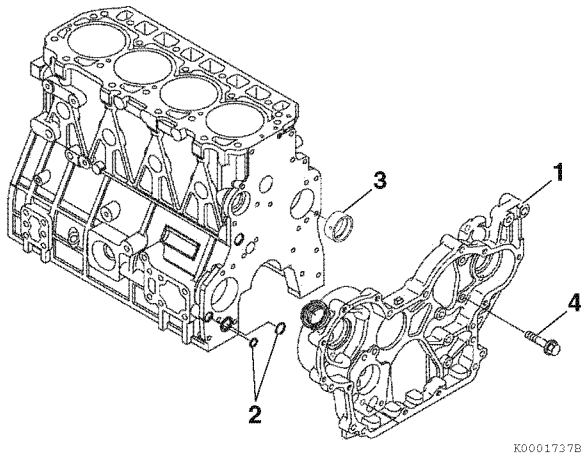
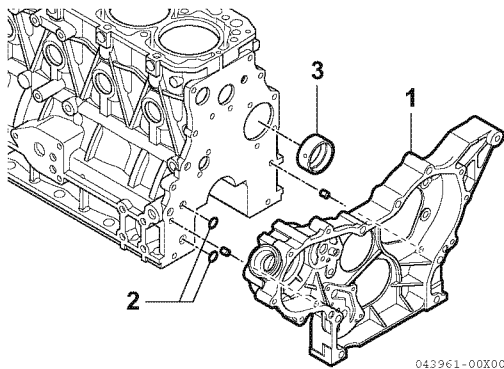

Figure 6-96
Figure 6-97
1. If removed, install a new camshaft bushing (Figure 6-96, (3)) using the appropriate service tool.
3. **4TNV98C, 4TNV98CT:** Install two new O-rings (Figure 6-96, (2)) in the cylinder block.
4. **3TNV88C - 4TNV86CT:** Reinstall the dowels (Figure 6-97, (5)) and a new O-ring (Figure 6-97, (2)).
5. Reinstall the gear case (Figure 6-96, (1)) or front plate (Figure 6-97, (1)). Tighten the bolts to the specified torque.